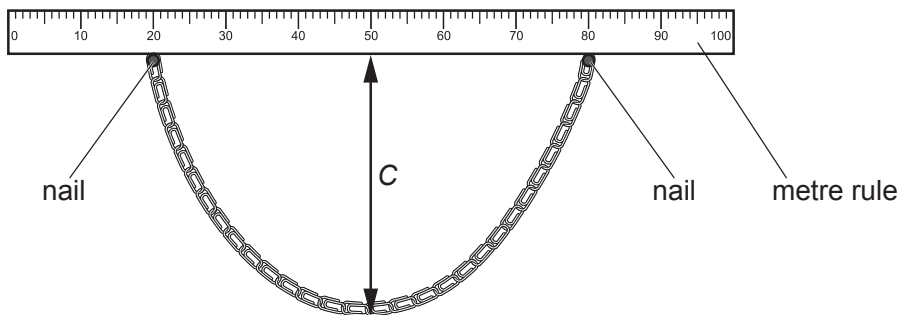

Fig. 1.2
- Rest one of the metre rules on the nails, as shown in Fig. 1.2.